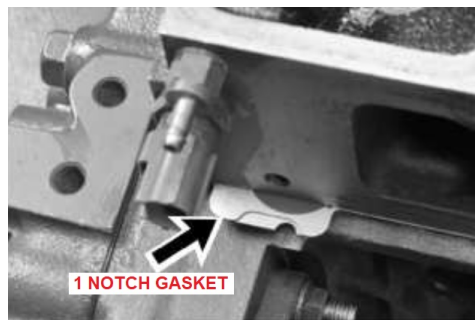

Figure 1. Gasket Identification Location
The head gaskets are marked with no notch or notches to indicate the gasket thickness and those notches are visible without removing the cylinder head as shown in Figure 1 below. If no work has been done on the engine before this head gasket repair, replace the head gasket with a “like” gasket that is removed.
(1) Cylinder Head Gasket (Fig. 1)